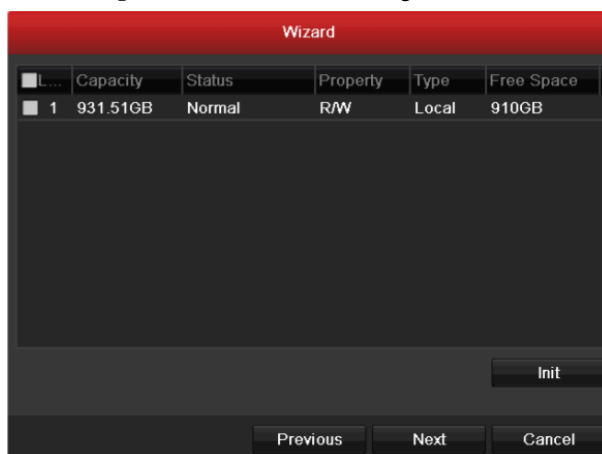

Figure 2.12 HDD Management
6. Click **Next** to the **HDD Management** window, shown in Figure 2.12.